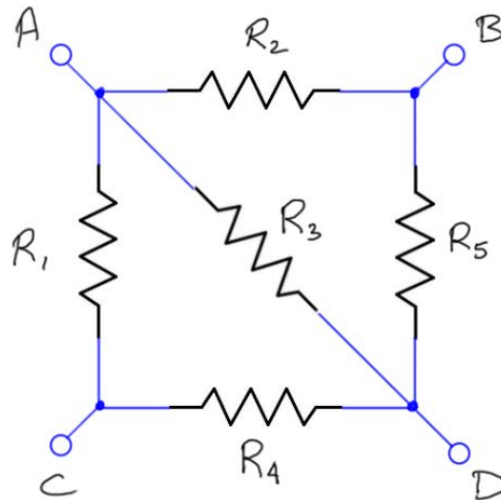

Figure 2.2: Circuit for Problem 2.2
Enter the circuit of Figure 2.2 on the facing page into NI Multisim and use the multimeter to measure each of the four resistances under the stated conditions.
Build the circuit of Figure 2.2 on the preceding page. Use the myDAQ DMM (digital multimeter) as an ohmmeter to measure each of the four resistances under the stated conditions.
- Place the resistors to match the resistor orientations shown in Figure 2.2 on the facing page.